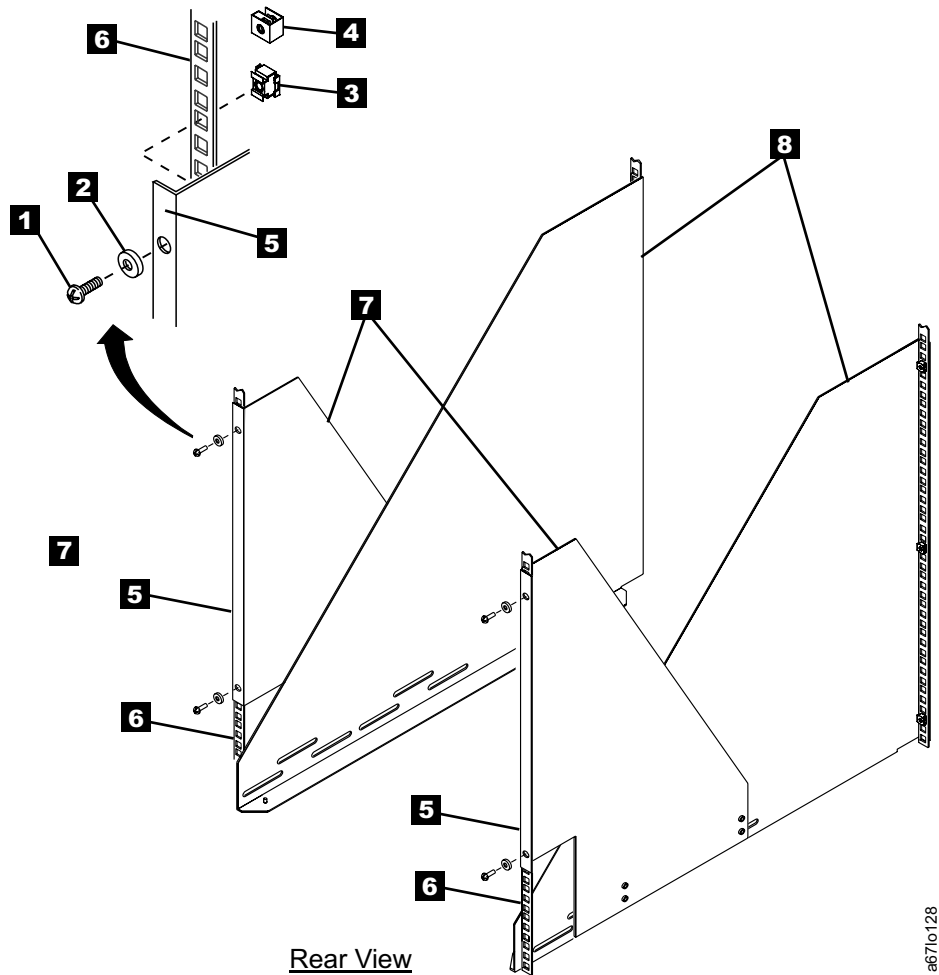

Figure 16. Installing the rear mounting brackets
8. Place one of the rear mounting brackets (see **7** in Figure 16) next to the rail **6**. Using the bracket as a template, install two cage nuts **3** (or clip nuts **4**) into the holes in the rail that are in line with the holes in the mounting bracket. Repeat this step for the second rear mounting bracket.